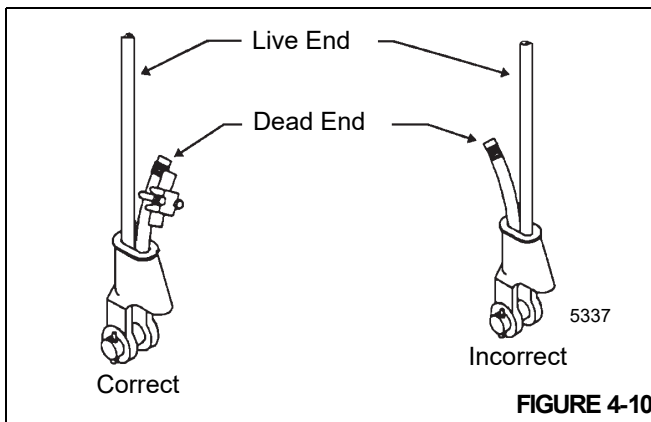

FIGURE 4-10
3. Make sure live end side (Figure 4-10) of rope is directly in line with ears of socket and direction of pull to which the rope will be subjected. If rope is loaded into socket incorrectly, under a load the rope will bend as it leaves the socket. The edge of the socket will wear into the rope causing damage and eventual failure.